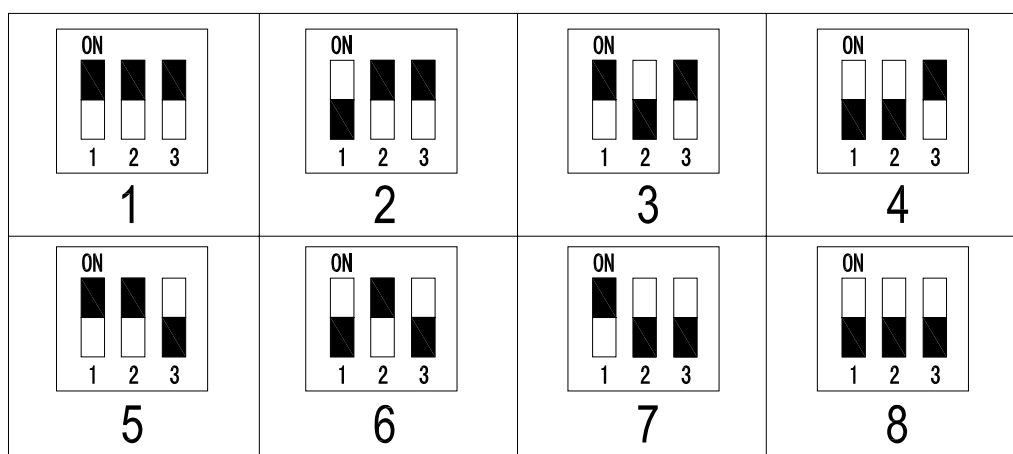

Fig. 5-3
- Opening the door of the panel, the red PIN switch in the left corner is using for panel address setting. The addresses' range is from 1 to 8. Please refer to Fig. 5-3.